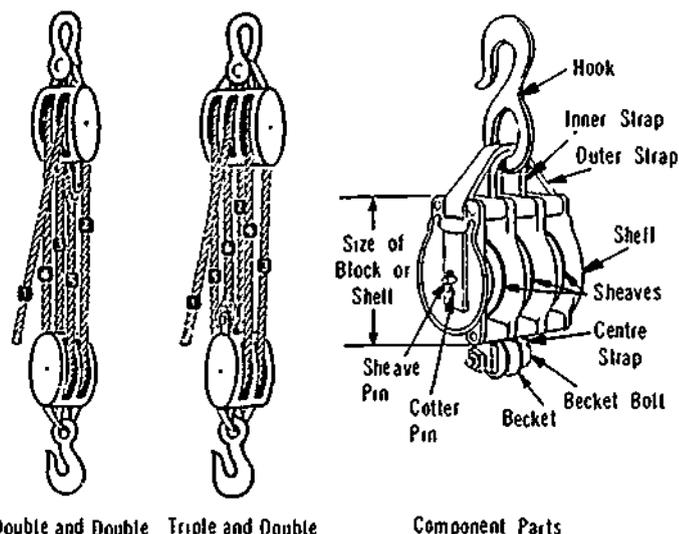

Figure 2-26. Two Types of Rope Blocks and Their Components
e) Examples of rope blocks are shown in Figure 2-26.